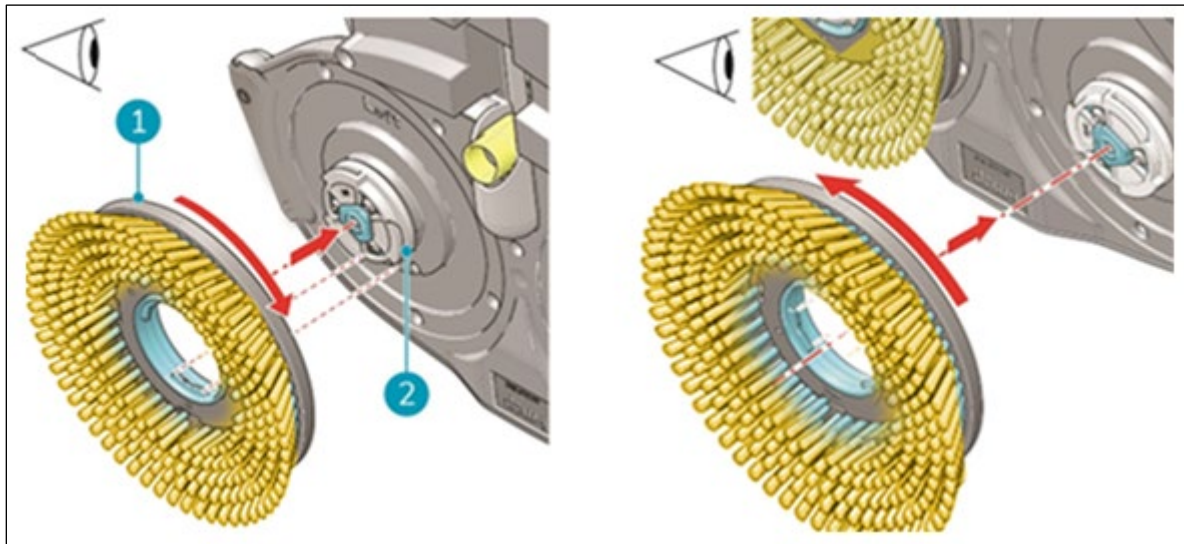

Figure 39
3. Using your other hand to turn the left brush (Figure 39, pos. 1) counterclockwise until you feel resistance or see the motor disk turning as well.